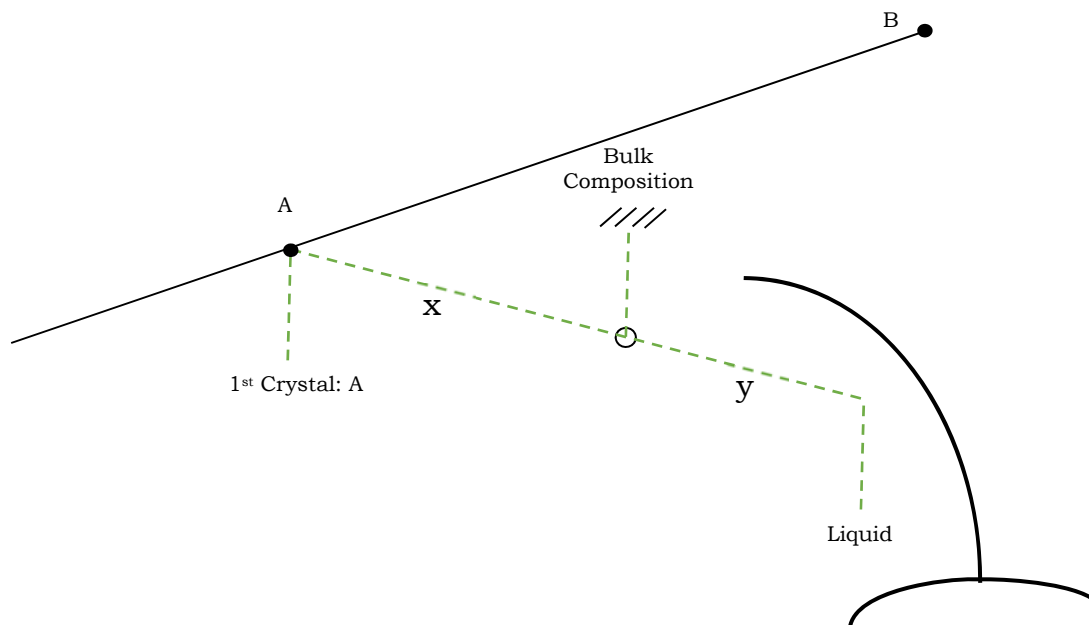

Figure 1. Lever Law for first crystal and liquid
3. Identify the location of the first crystal, A, and turn your back to it and walk directly away from the peak where it is located. As you walk downhill (down in temperature), your location is the composition of the liquid. A line from your location to peak A, through the bulk composition, defines two line segments from which the lever rule may be applied to determine amount of A [$y/(x + y)$] and amount of liquid [$x/(x + y)$]. Remember that the use of the lever law is like a child’s mobile hanging from the bulk composition point as shown in Figure 1.